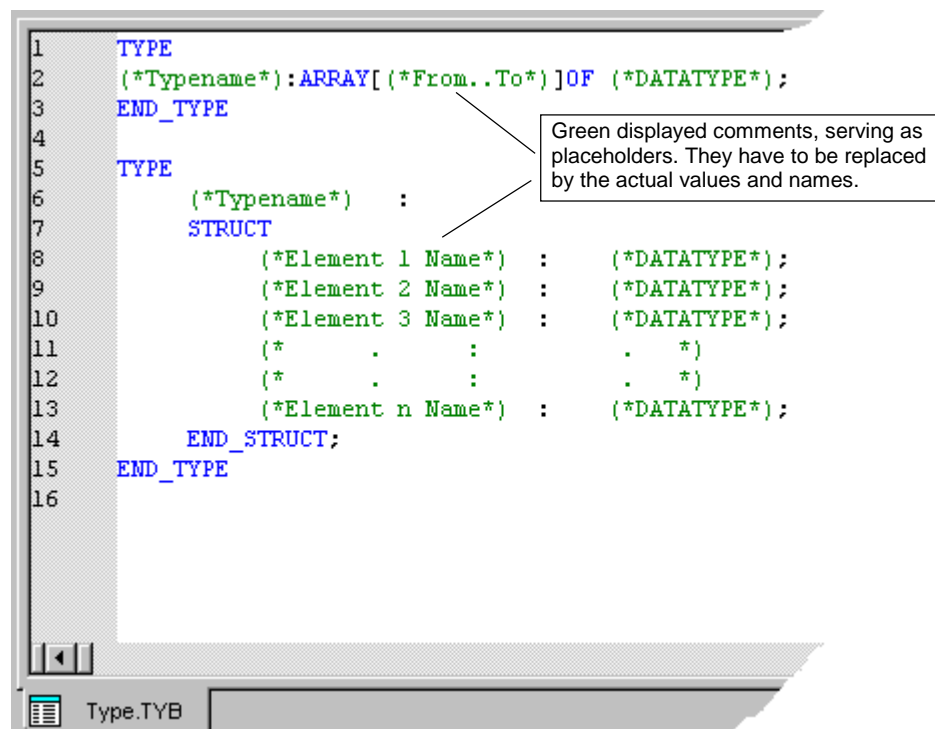

Figure 5-17: Data type worksheet 'Type' with pre-edited keywords, inserted using the Edit Wizard
- In the list of available keywords in the Edit Wizard double click on the keyword 'STRUCT'. It is automatically inserted at the text cursor position. The actual variables and values are replaced by comments (green text, enclosed by parentheses and asterisks) as shown in figure 5-17.
- Press <↵> to insert the structure. It is automatically inserted at the text cursor position. The actual variables and values are replaced by comments (green text, enclosed by parentheses and asterisks) as shown in figure 5-17.